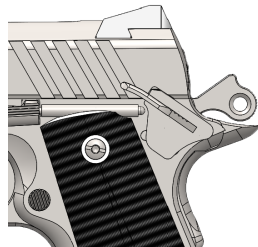

Figure 48
- Cycle the slide by pulling the slide rearward and letting it move fully forward. Engage the slide lock safety into the “SAFE” position – Figure 48. Hold the pistol while depressing the grip safety and press rearward on the trigger. If the slide lock safety is operating correctly, the hammer should not fall.